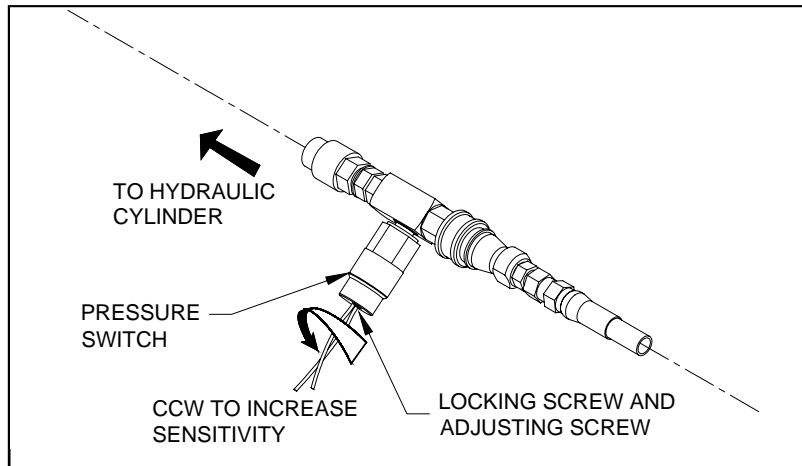

FIGURE 2-6: ANTI-STOW PRESSURE SWITCH
- I. Refer to **Figure 2-6**. The pressure switch adjusting screw is located at the top of the body, between the two lead wires. There is a locking set-screw above the adjusting screw, which must be removed to carry out pressure switch adjustments.